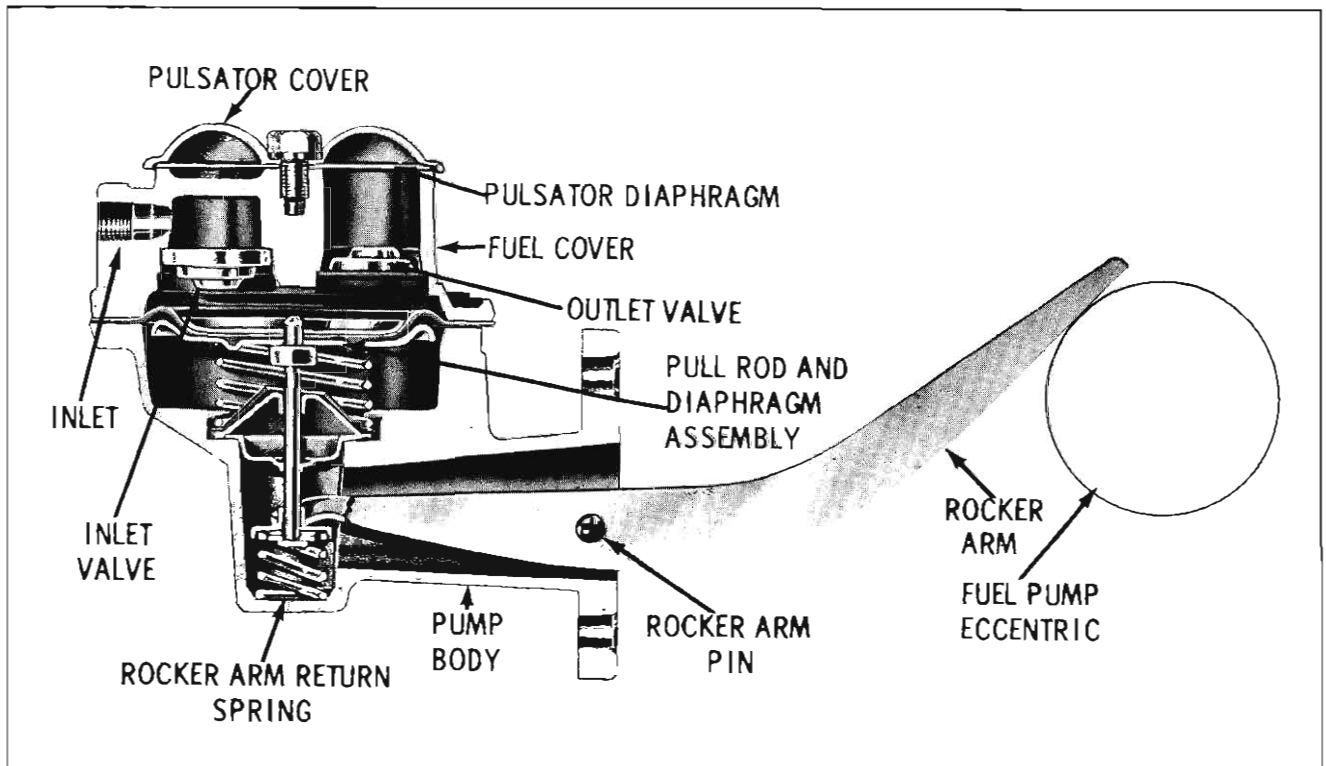

Fig. 3-479 Fuel Pump Assembly
The fuel pump rocker arm is held in constant engagement with the eccentric on the camshaft by the rocker arm spring. As the outer end of the rocker arm moves downward, the fuel link pulls the fuel diaphragm upward. The action of the diaphragm enlarges the fuel chamber drawing fuel from the tank through the inlet valve and into the fuel chamber (Fig. 3-479).
5. Position the rocker arm in the pump body with the forked end of the rod on the rocker arm return spring retainer portion of the pull rod assembly. Make sure that the rocker arm return spring is properly seated in the spring retainer of the pull rod end of the diaphragm assembly. (Fig. 3-479)